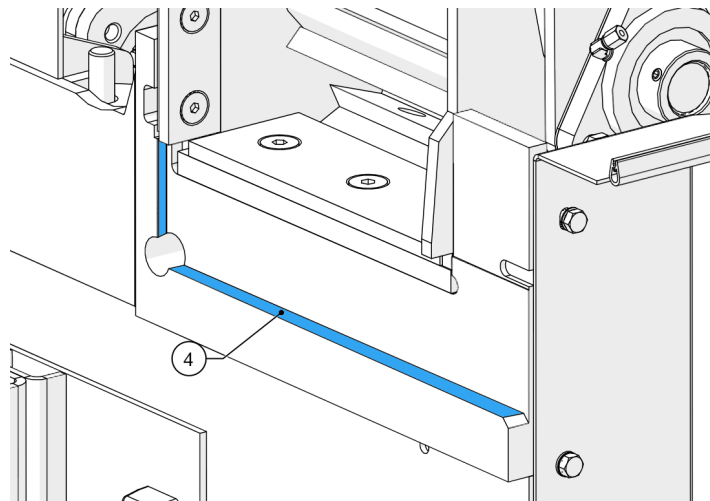

Figure 67 - Anvil seat
12. Make sure the anvil seats are free from dirt and debris before inserting anvil (4, Figure 67).